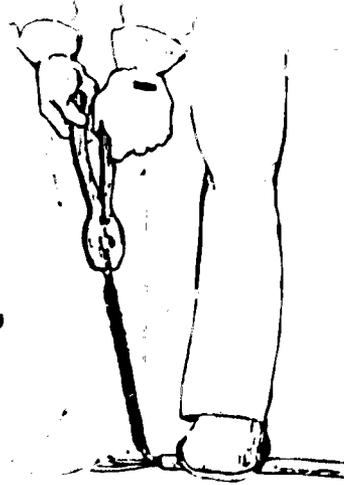

FIGURE 6
- I. Twist with pliers until braid is continuous and uniform (Figure 6)